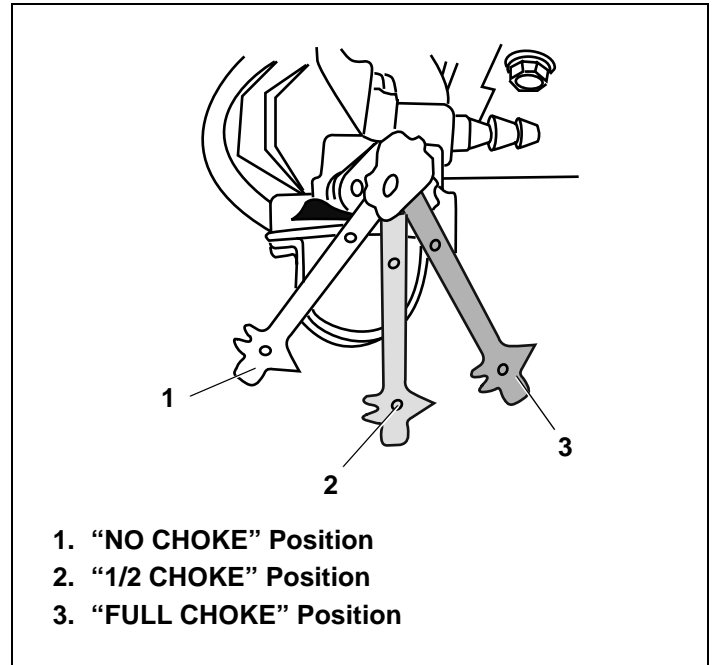

Figure 15. Choke Control Positions
3. Move engine choke back and forth several times and leave in the "FULL CHOKE" position. See Figure 15.